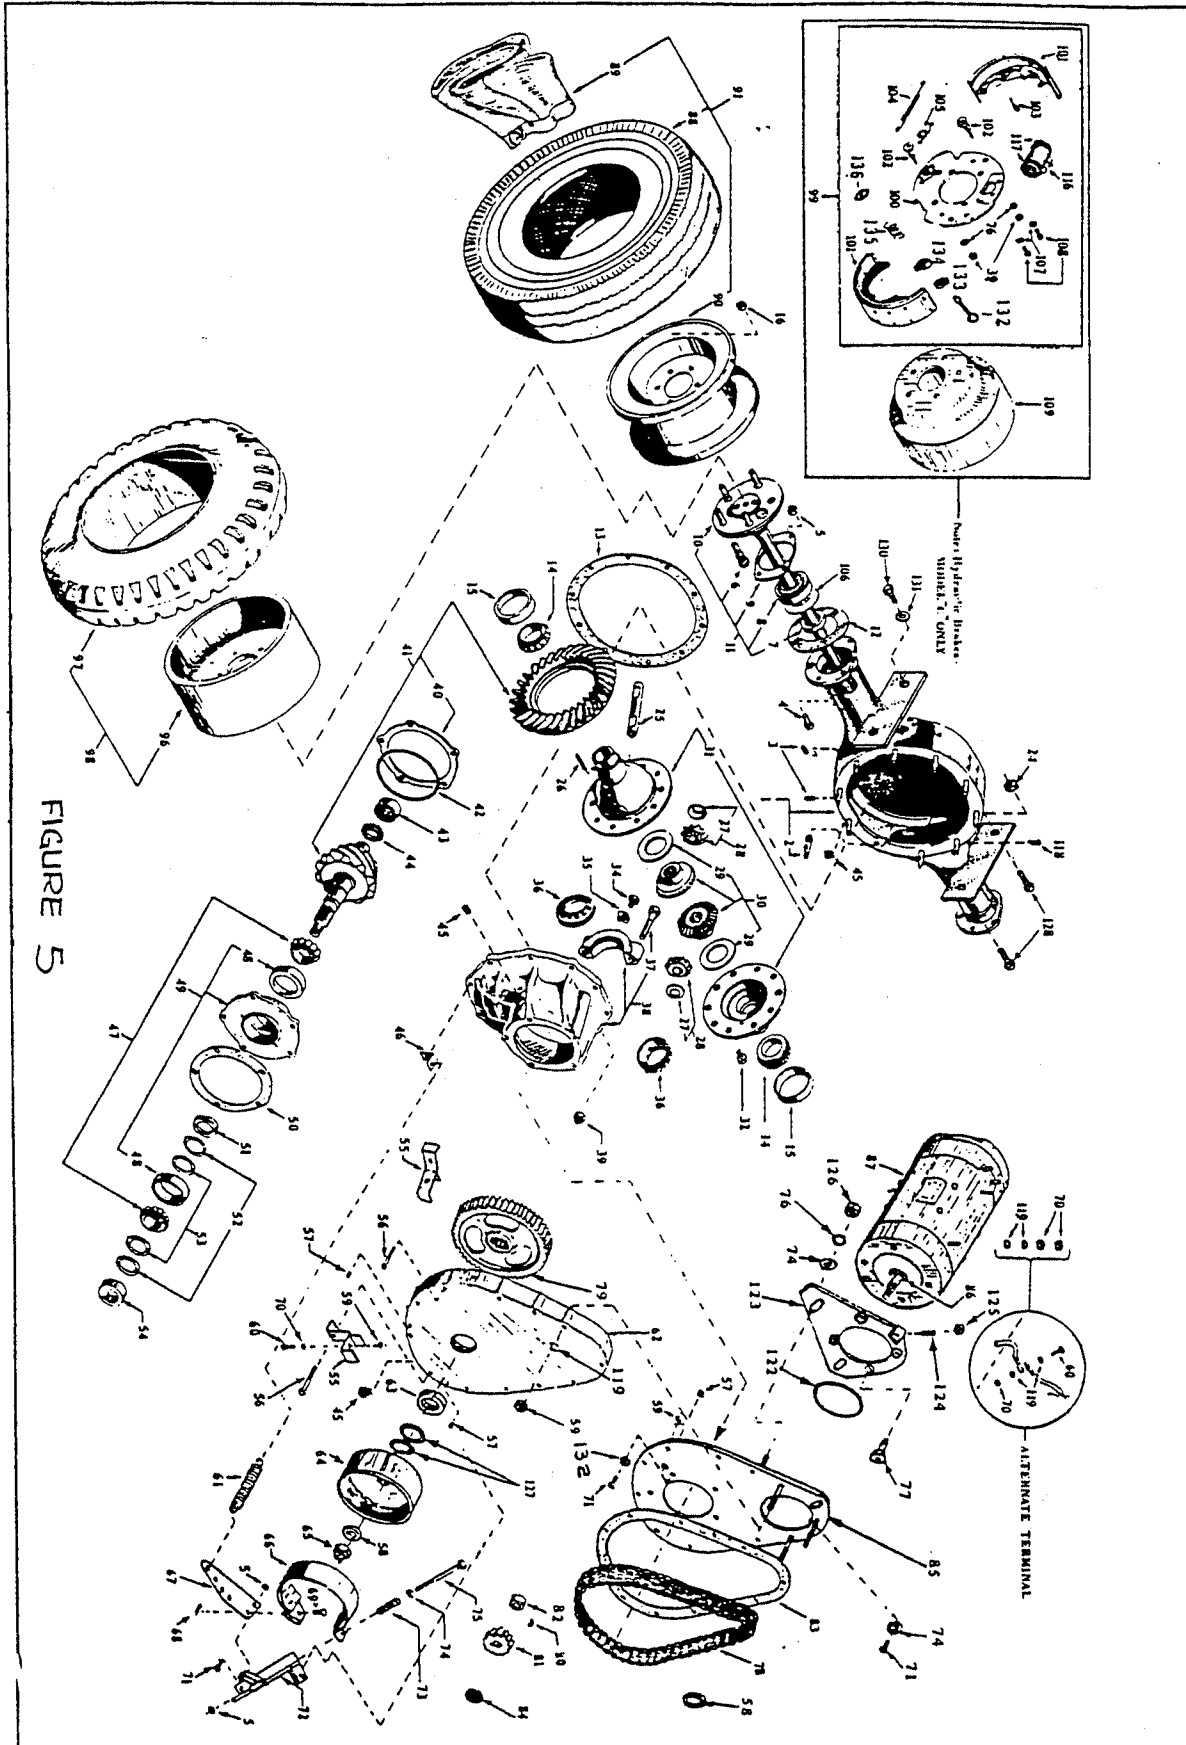

FIGURE 5
5. **Shim Selection:** Manufacturing tolerances in the pinion bore dimensions and in the best operating position of the gears make an adjustment shim necessary. This shim is placed between the pinion retainer and the carrier, Figure 5. An increase in the thickness of the shim moves the pinion AWAY from the drive gear. Manufacturing objectives are to make axles requiring a .0015" shim and if a new assembly is being built, a .0015" shim should be used for a tentative build-up. Shims are available in .010" to .021" thicknesses in the steps of .001". Pinions and drive gears are marked, when matched, with the same number. Following the number on the pinion is a minus (-) or (+) followed by a number. If the pinion is marked "-1" it indicates that a shim .001" thinner than a standard shim for this carrier is required. A minus number means the pinion should be moved closer to the drive gear and a thinner shim is required. A plus number means the pinion should be moved farther from the drive gear and a thicker shim is required. A pinion marked zero (0) is a standard pinion. To select a shim, measure the original shim with a micrometer (note the dimensional mark on the original pinion). Compare the mark on the original pinion with the mark on the new pinion to determine how the original shim should be modified. For example, if the original shim is .015" and the original pinion is marked "-1", the new pinion requires a +1 shim. Therefore, the new pinion requires a .002" thicker shim, and a .017" shim should be used. If the new pinion is marked the same as the old pinion, no shim change is required.
11. Install axles, brake assemblies (on models with hydraulic brakes), bearing retainers, and gaskets. NOTE: Axles are equipped with special sealed bearings. Should there be evidence of seal leakage, it is recommended that a new bearing and new bearing retainer ring be pressed onto the axle shaft, and new gasket be installed between the bearing and bearing seat in the housing. Refer to Figure 5.
REFER TO FIGURE 5